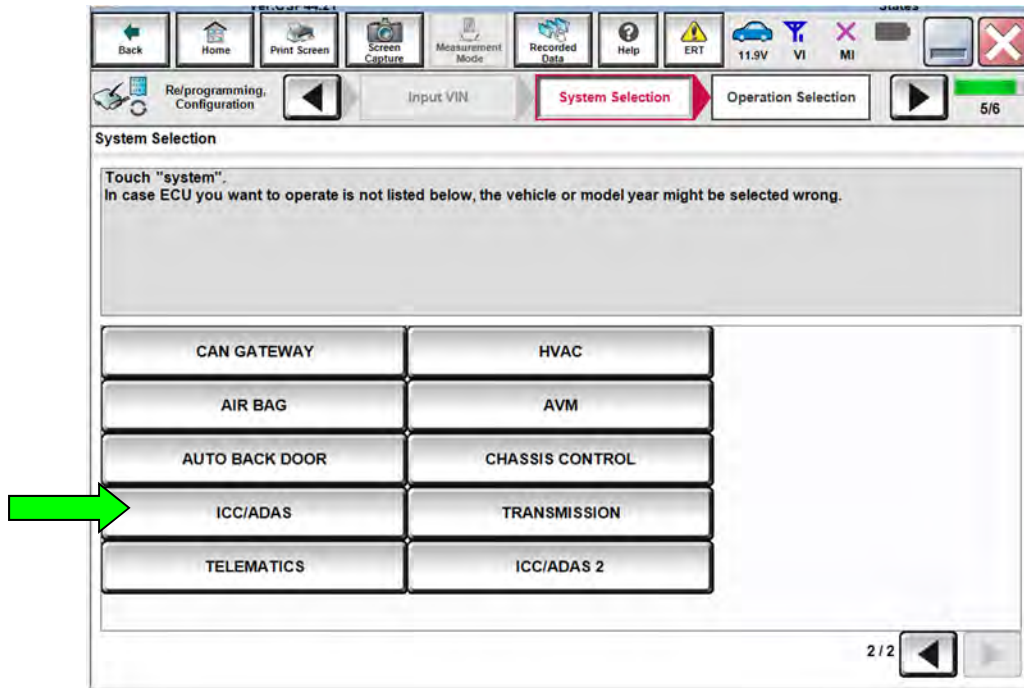

Figure 25
41. Refer to steps 1-17 starting on page 3 to navigate to Figure 25.